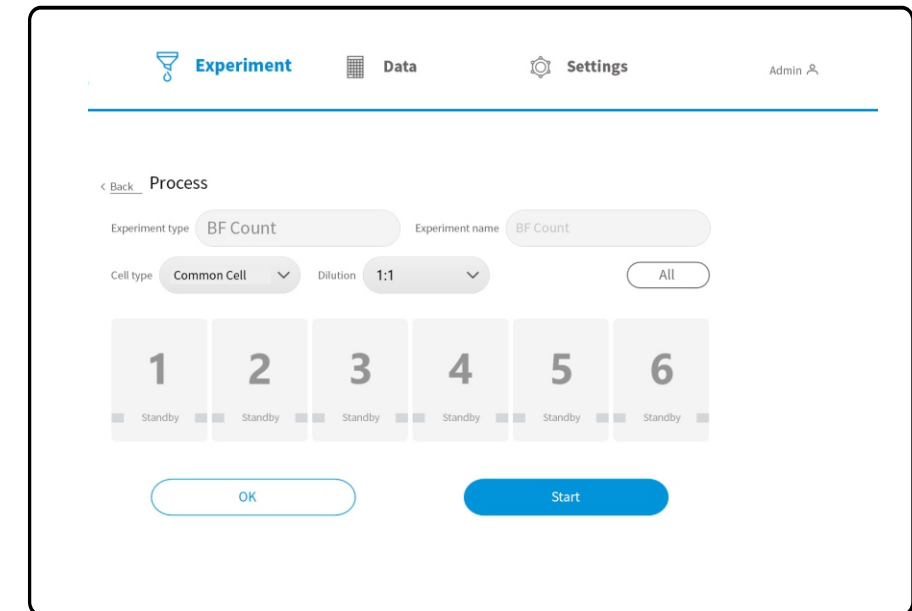

Figure 7 Experiment Information Entry Interface
- 3 Figure 7: Enter the experiment flow information, set as follows: